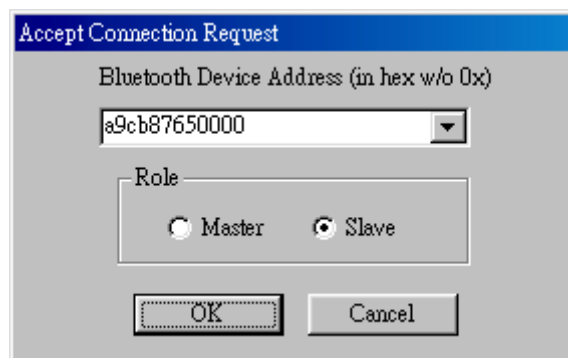
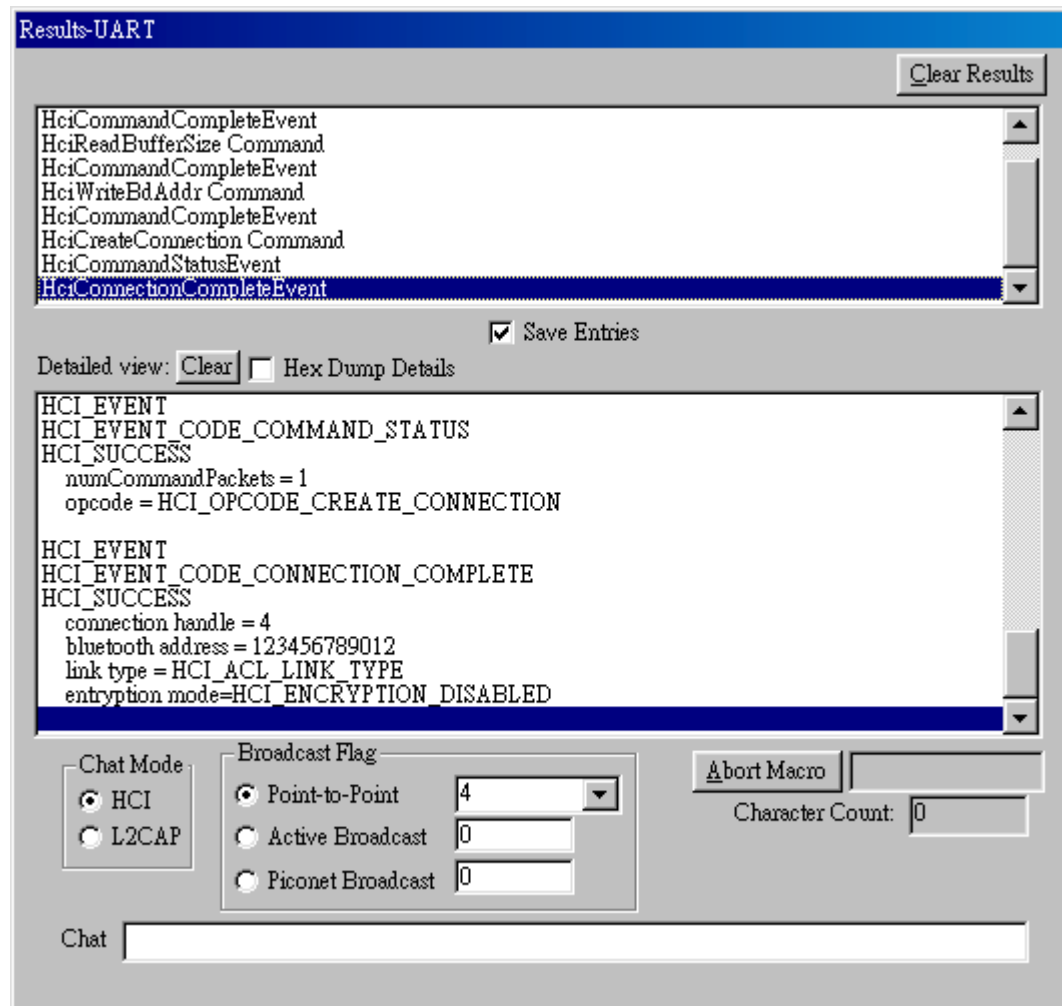

Figure 21: Accept Connection Request from Master Device
Figure 22: Successful Connection Result on Master Device
9. On the Slave computer, a “**Accept Connection Request**” window will appear, click on the “**Write Scan Enable**” button immediately before timeout. (as Figure 21). Please see the “**Result**” window for detailed information. (as Figure 22)